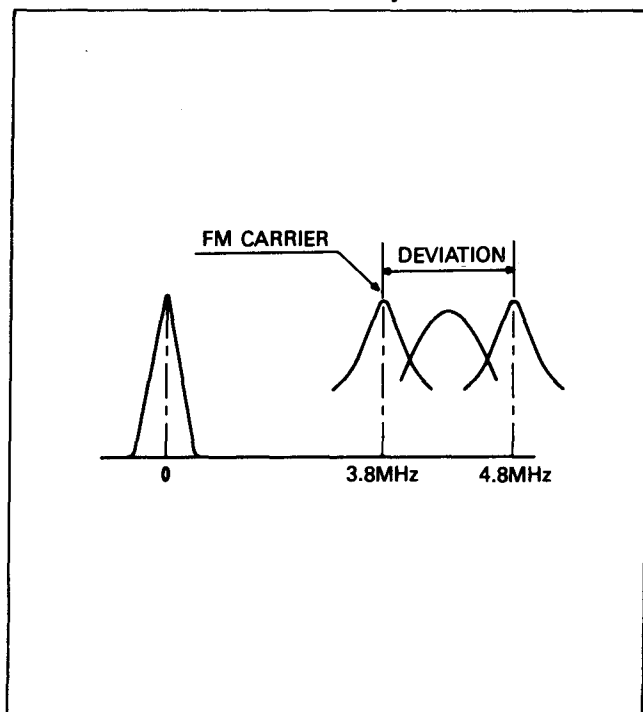

Fig. 10 FM Carrier & Deviation Adjustment
- 6) And then adjust the Deviation Control (VR0305) so that the frequency is 4.8MHz \pm 0.1MHz for the 1MHz deviation. (See Fig. 10).